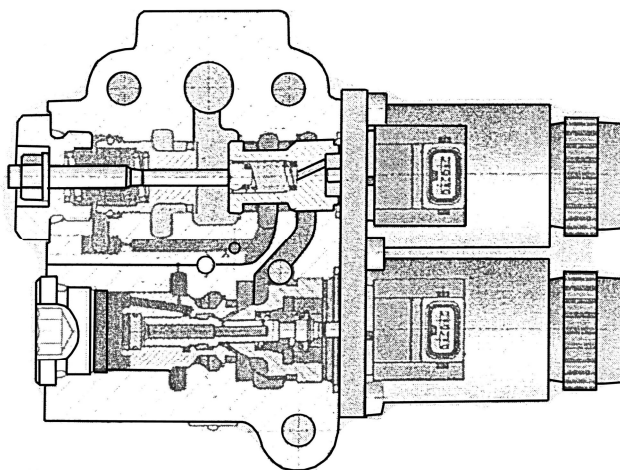
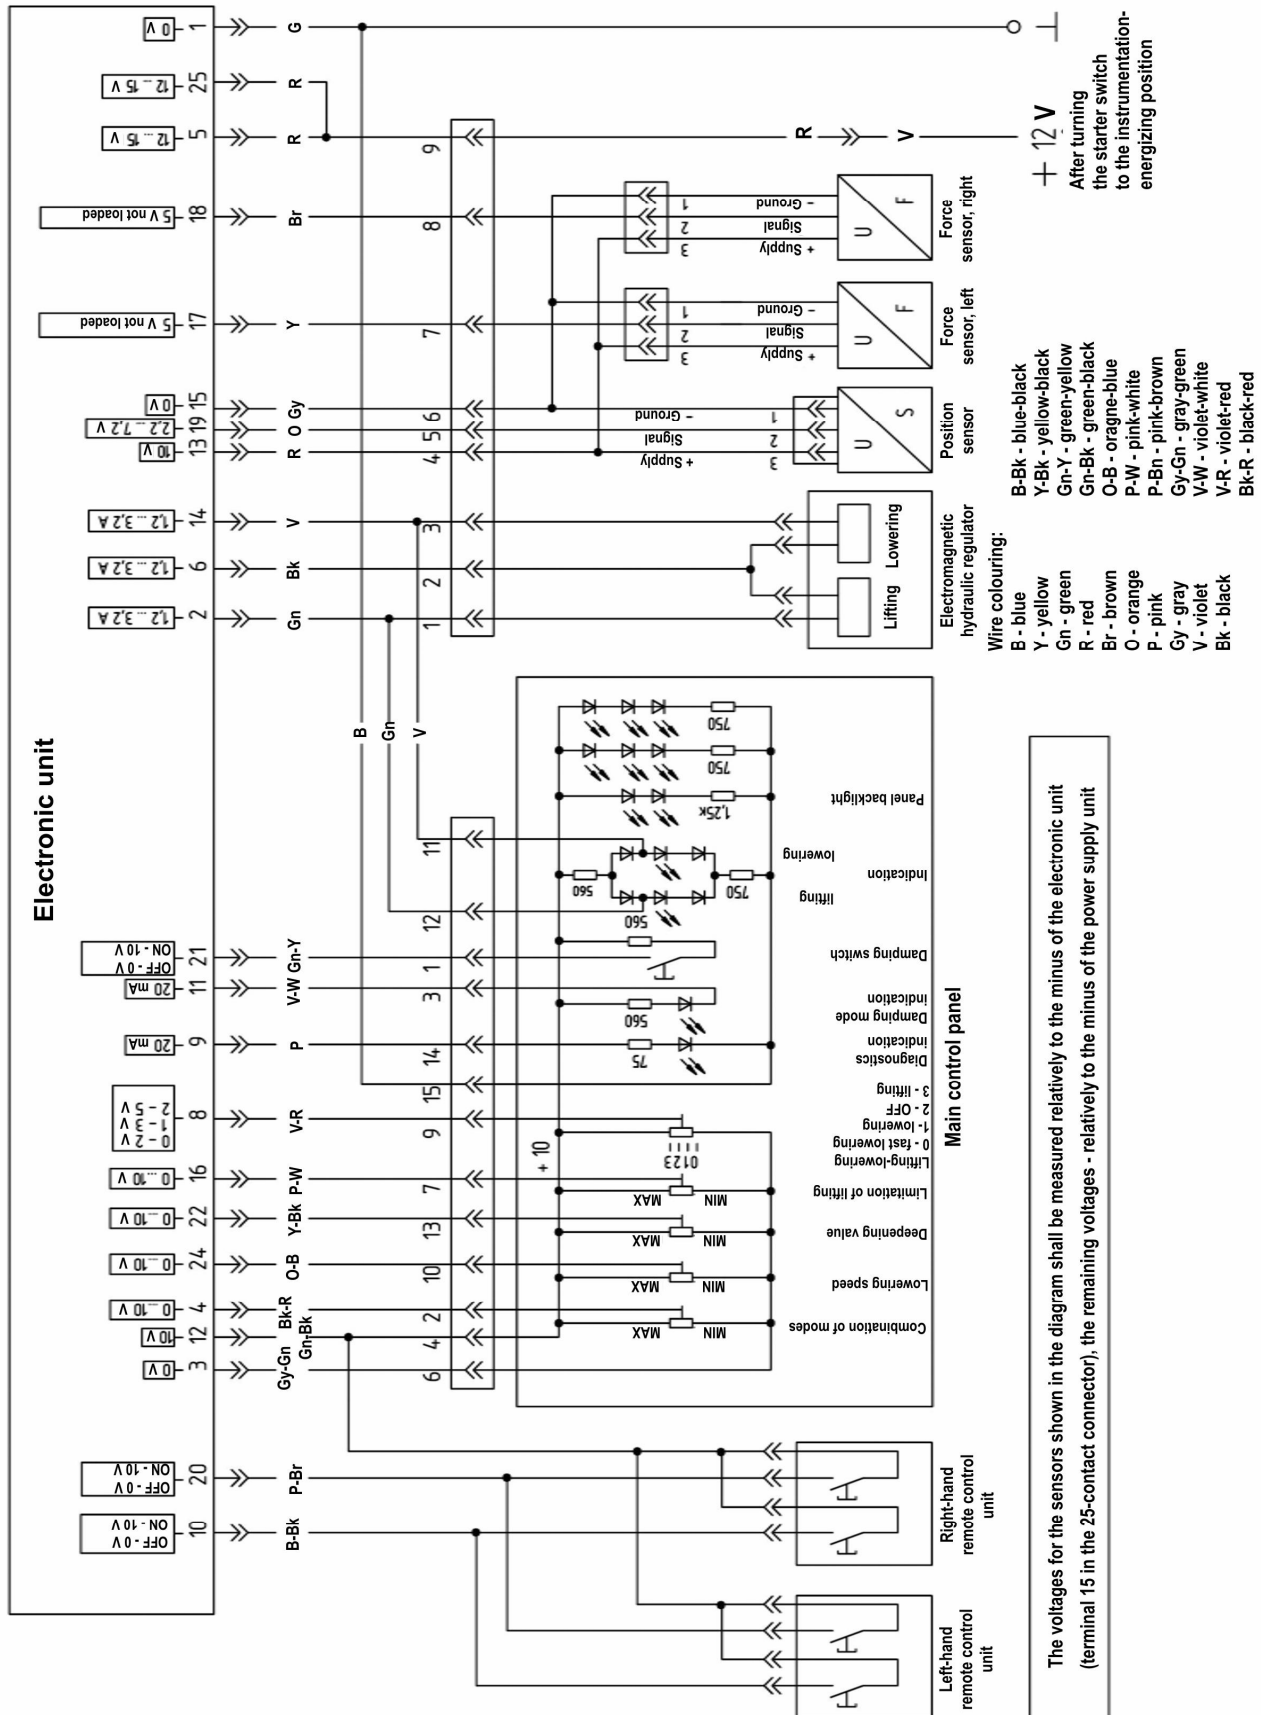

Fig. E-34. EHR5-OC electro-hydraulic regulator
Fig.E-37. Electric connection diagram of the RHL control system
The construction arrangement of the EHR5-OC electro-hydraulic regulator is shown in Fig. E-34.
The EHR5-OC electro-hydraulic regulator (Fig.E-34) is controlled by two proportional magnets with the use of the electronic RHL control system (see Fig. E-37)
The connection diagram of the RHL control system is shown in Fig. E-37.
buttons. Short circuit between the wires or locking of one of the remote control buttons. In this case, the hitch linkage begins move up- or downwards immediately after starting the engine (Fig. E-37)	for mechanical damage. Disconnect each button in turn until the defect is eliminated. When disconnecting the buttons, the engine shall be stopped. If the defect does not disappear when the buttons are disconnected, it is necessary to disconnect the connector from the electronic unit and check the terminals (10) and (12), (20) and (12) for short circuit by means of a tester.